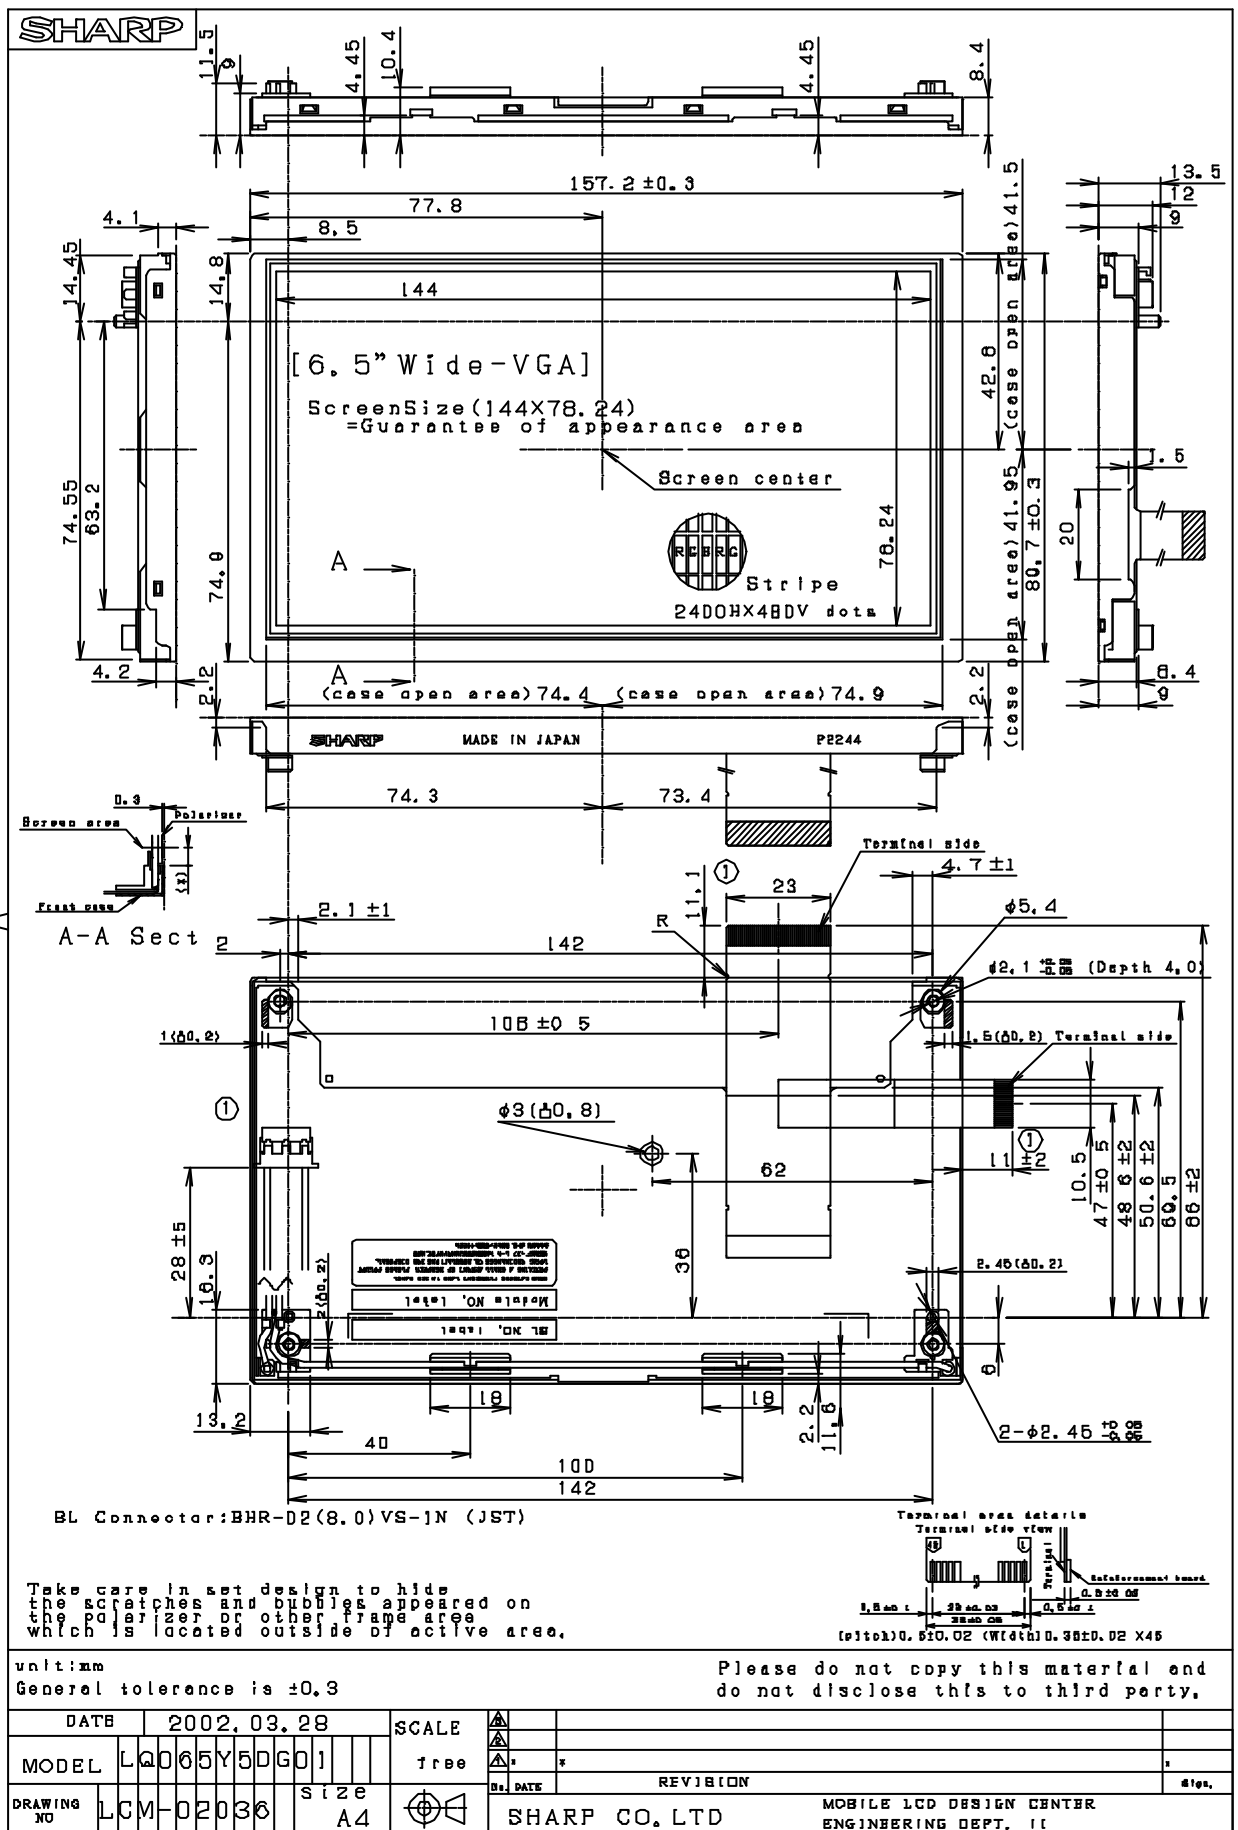

Fig.1 Outline dimensions
① Please bend FPC only at a film cover lay slit part (Fig.1 A)
② Please do not hang a LCD module or do not apply excessive power for FPC.
① Attached location of the label : See Fig.1 (Outline Dimensions).
② Indicated contents of the label